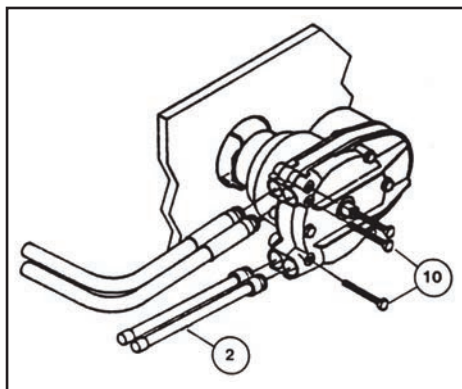

Figure 8.
STEP 2. Feed the cable ends into the **UPPER** entry spigots, keeping the conduit fittings aligned, until they contact the internal gears. Then turn the steering wheel to draw the cables fully into the helm. Continue turning wheel until both conduit end fittings are fully inserted into the entry spigots. See Figure 8.
STEP3. Insert two bolts (item 10) into the helm and tighten fully, making sure that the bolts are in the retaining grooves of both cable fittings. See Figure 8.
STEP4. Feed the Spent Travel Tubes (item 2) over the exposed cable ends and insert bolt (item 10) into the helm, tighten fully. See Figure 8.